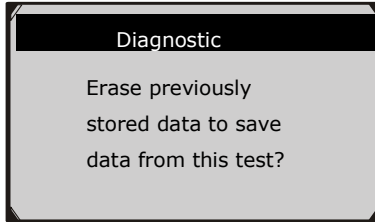

Figure 5.1
7) You will be prompted to erase previously stored data. (Figure 5.1)